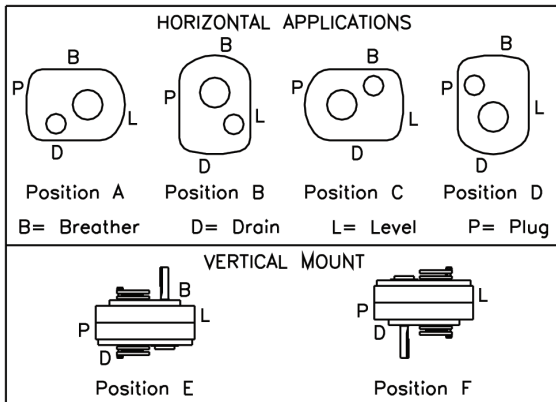

Figure 1 - Mounting Positions
2. Determine the running positions of the reducer. (See Fig. 1)
Vertical Installations - Install the filter/ventilation plug in the hole provided in the upper face of the reducer housing. If space is restricted on the upper face, install the vent in the highest hole on the side of the reducer per Figure 1 using the optional vertical vent kit. Install a plug in the hole in the bottom face of the reducer. Do not use this hole for the magnetic drain plug. Install the magnetic drain plug in the lowest hole on the sides of the reducer. Of the remaining holes on the sides of the reducer, use the plug in the upper housing half for the minimum oil level plug,
Below 15 RPM output speed, oil level must be adjusted to reach the highest oil level plug. If reducer position is to vary from those shown in Figure 1, either more or less oil may be required. Consult Dodge.
The running position of the reducer in a horizontal application is not limited to the four positions shown in Fig. 1. However, if running position is over 20° in position "B" & "D" or 5° in position "A" & "C", either way from sketches, the oil level plug cannot be used safely to check the oil level, unless during the checking, the torque arm is disconnected and the reducer is swung to within 20° for position "B" & "D" or 5° for position "A" & "C" of the positions shown in Fig. 1. Because of the many possible positions of the reducer, it may be necessary or desirable to make special adaptations using the lubrication filling holes furnished along with other standard pipe fittings, stand pipes and oil level gauges as required.
① Oil quantity is approximate. Service with lubricant until oil runs out of oil level hole.
② Refer to Figure 1 for mounting positions.
③ US measure: 1 quart = 32 fluid ounces = .94646 liters.
④ Conversion from quarts rounded values.
⑤ Below 15 RPM output speed, oil level must be adjusted to reach the highest oil level plug. If reducer position is to vary from those shown in Figure 1, either more or less oil may be required. Consult Dodge.